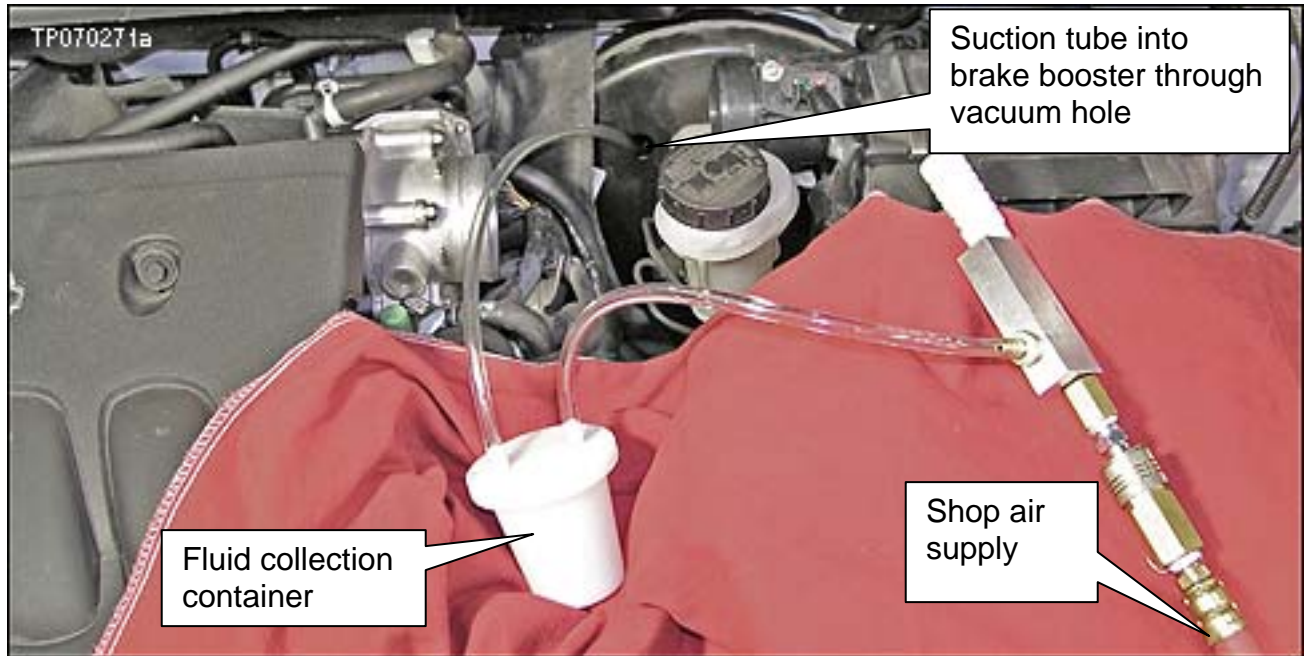

Figure 3
5. Connect Special Tool J-49749 as shown in Figure 3.